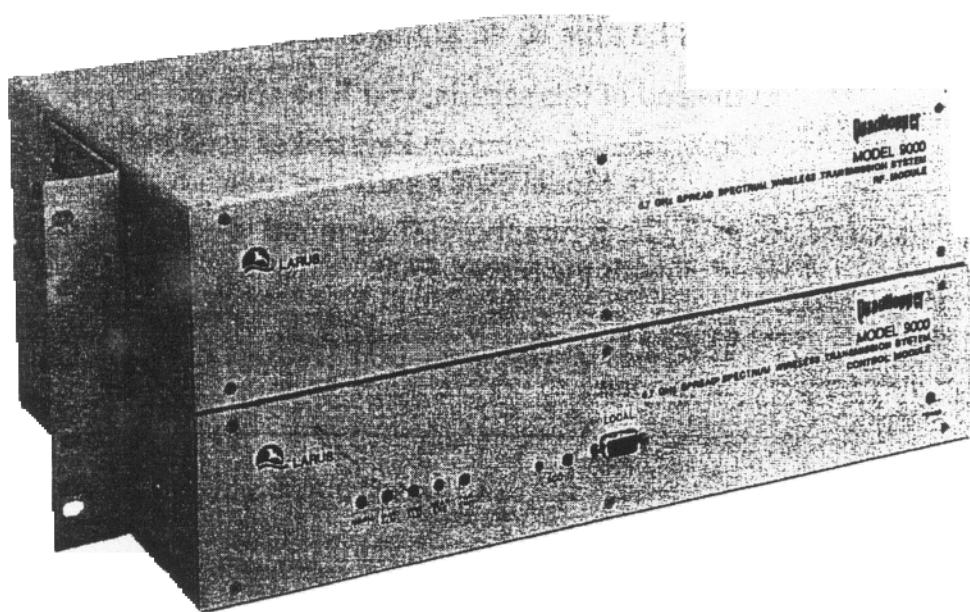

Figure 1-1. Model 9000 Spread Spectrum 5.78 GHz Digital Microwave Radio System
The 9000 radio interconnects digital links between near-end and far-end locations. At each end, the radio system consists of a single antenna and a Radio Frequency (RF) Module and Control Module assembly. (Refer to Figure 1-1): The Model 9000 complies with FCC Part 15.247 and Canada 210, which specify the license-free operation of spread spectrum radio equipment within the 5.730 to 5.845 GHz band reserved for industrial, scientific, and medical (ISM) applications.